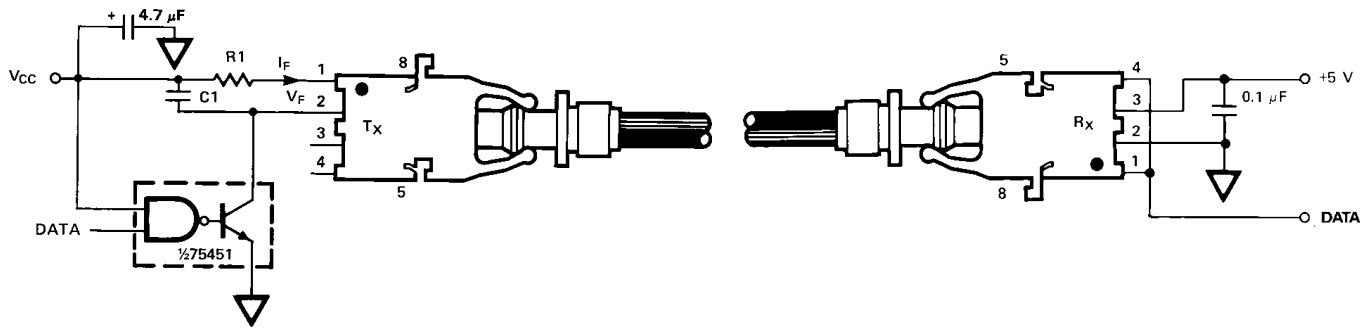

Figure 11. Required 1 MBd Interface Circuit.
- The LED drive circuit of Figure 11 is required for 1 Mb/s operation of the HFBR-25X2/25X4.